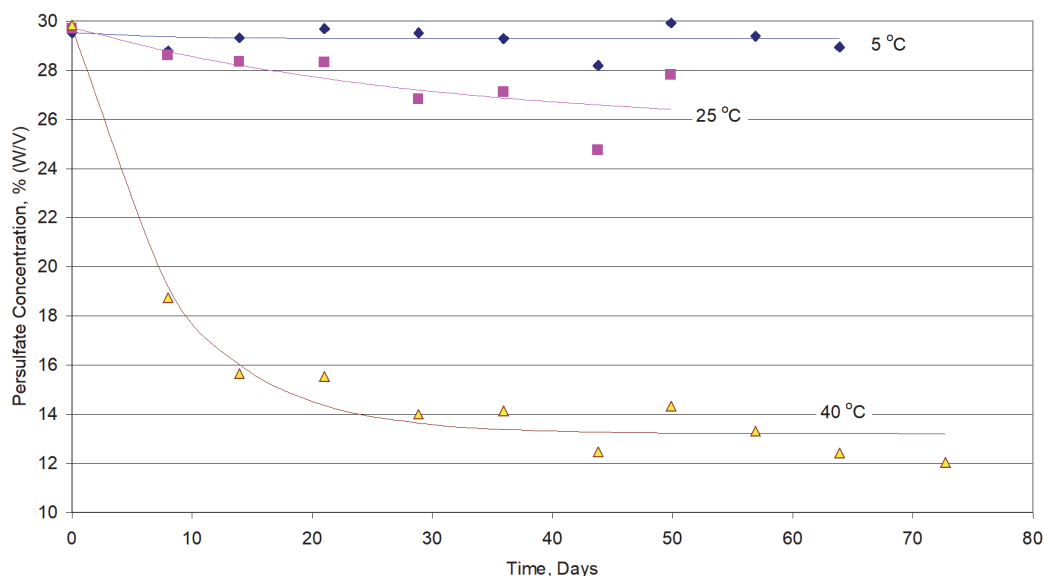

Figure 50: Aging of 30% (W/V) Na₂S₂O₈ in HDPE Bottles
2. **Check oxidizer age.** The oxidizer reagent loses strength as it ages, depending upon its temperature. (See Figure 50 on page 166.) Prepare fresh 30% (W/V) sodium persulfate solution, as described in the next section, if necessary.